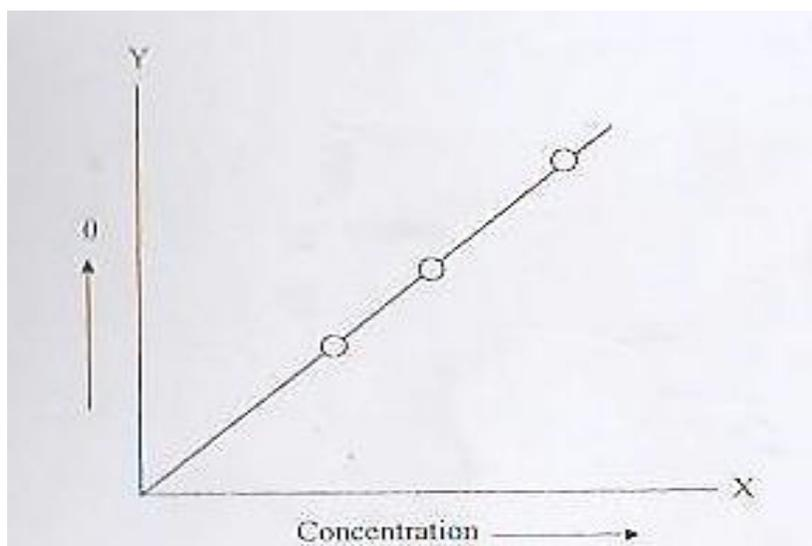

Fig. 2
1. Draw a graph between θ and concentrations. The graph will be a straight line as shown in Fig.2.